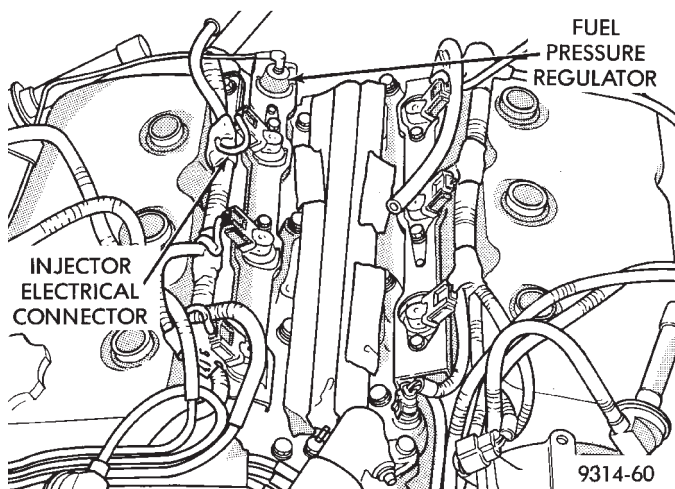

Fig. 32 Cover Lower Intake Manifold With Tape
(1) Remove air cleaner assembly and intake manifold plenum. Refer to Group 11, Exhaust System and Intake Manifold for procedure.
(2) Cover lower intake manifold with a suitable cover during service (Fig. 32).